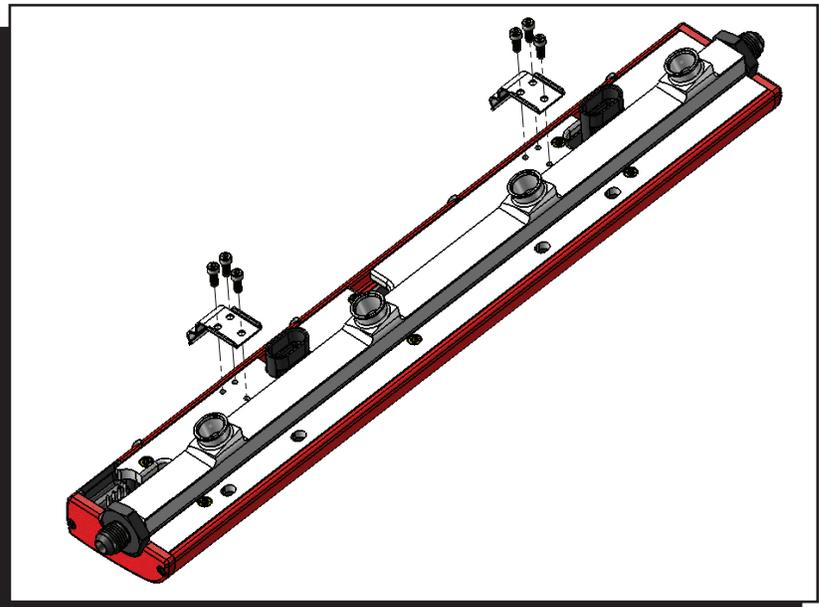

Figure 2 Coil Cover Bracket Installation.
4. Place the fuel rails upside down on a flat surface. Locate the coil cover retaining brackets and supplied socket head cap screws. Install the brackets with the hardware as shown in Figure 2.